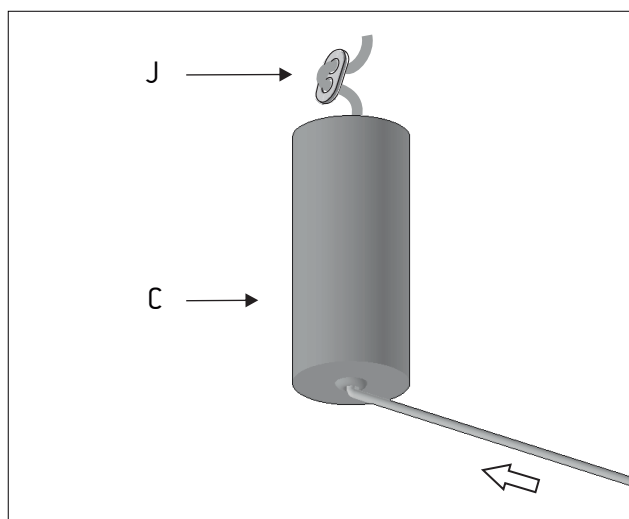

Figure 6
6 - Run the electrical cable coming from the head through the lower hole of the mounting bracket (C). Insert the cable through the holes of the cable holder (J) to secure it. Cut the cable to the desired length. Figure 6.